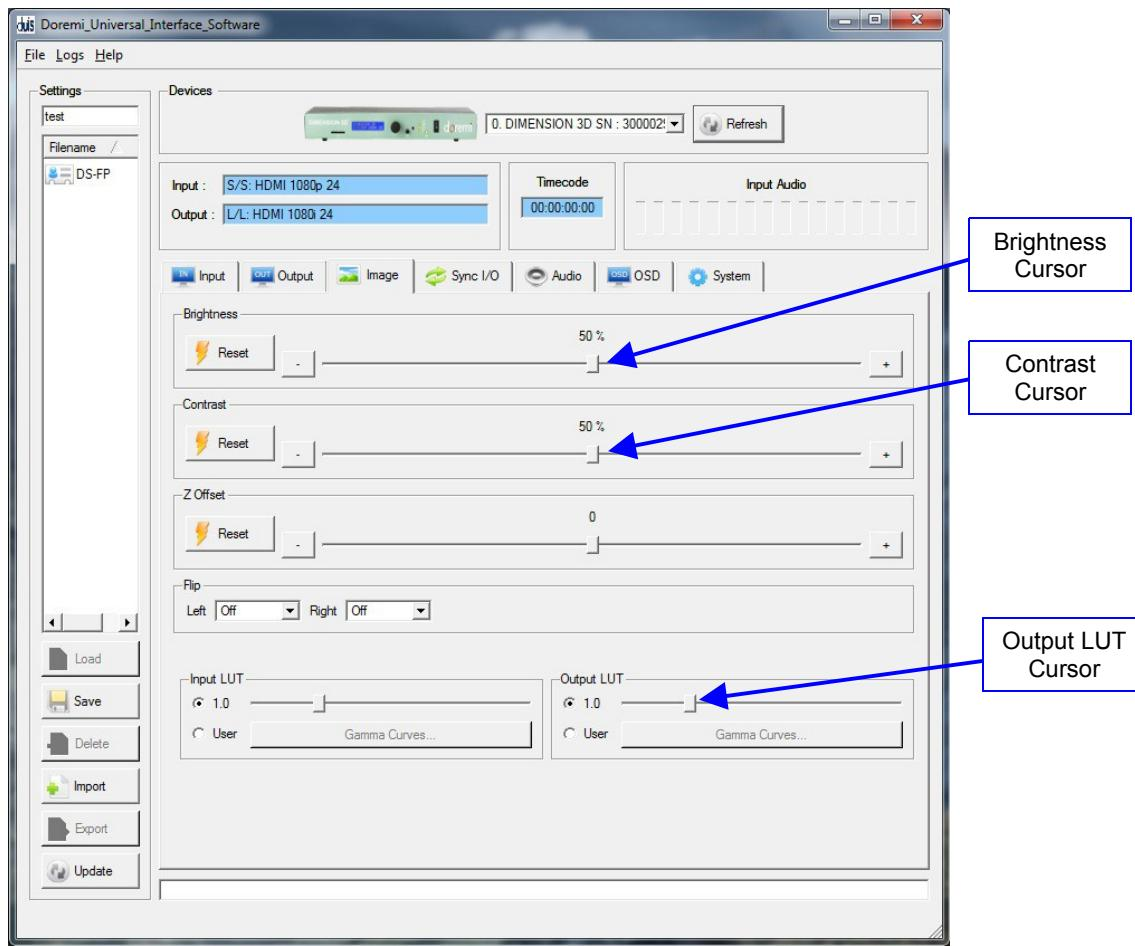

Figure 13: Doremi Universal Interface GUI – Image Tab
- The “Input” and “Output” LUT values can be changed using the sliders (Figure 13).
- Gamma curves can also be changed as well (Figure 13).
- Select the “User” check-box in the “Input” and “Output” LUT field (Figure 13).
- Click the “Gamma Curves ...” button (Figure 13).